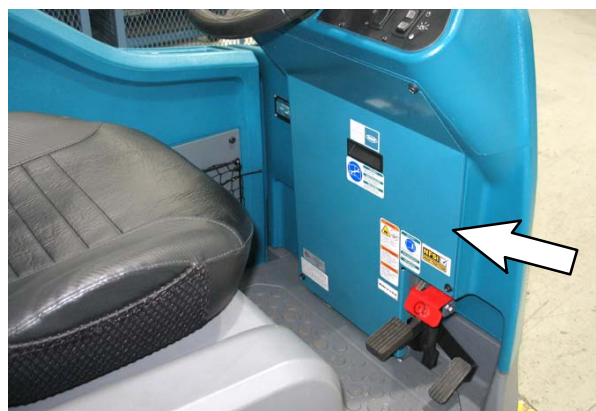

FIG. 1
2. Remove the access panel from the steering channel. Set the access panel and all hardware aside. (Fig. 1)